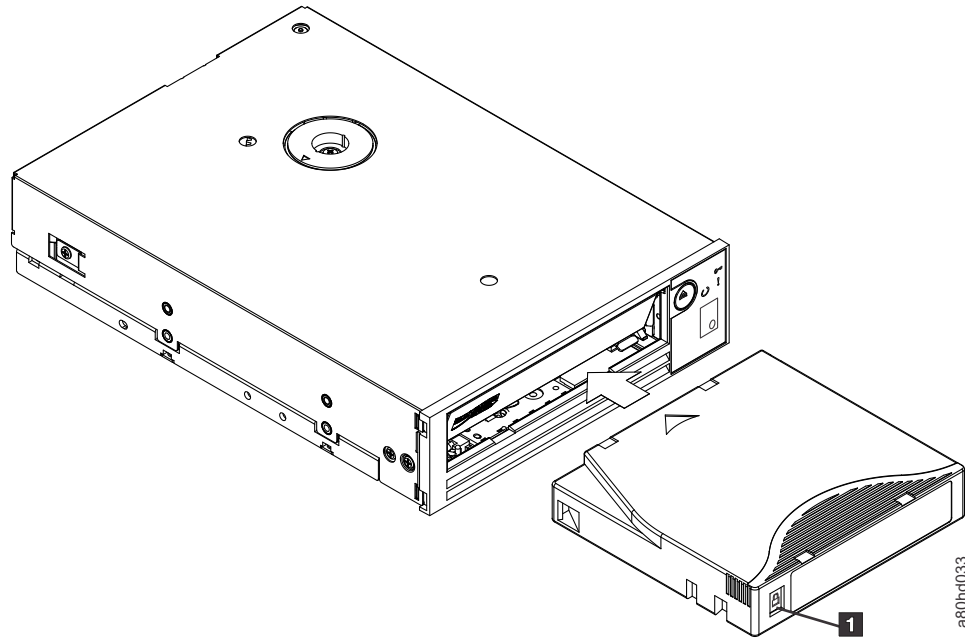

Figure 19. Loading
4. Slide the cartridge into the tape load compartment (see Figure 19 on page 20). The tape drive automatically loads the cartridge.